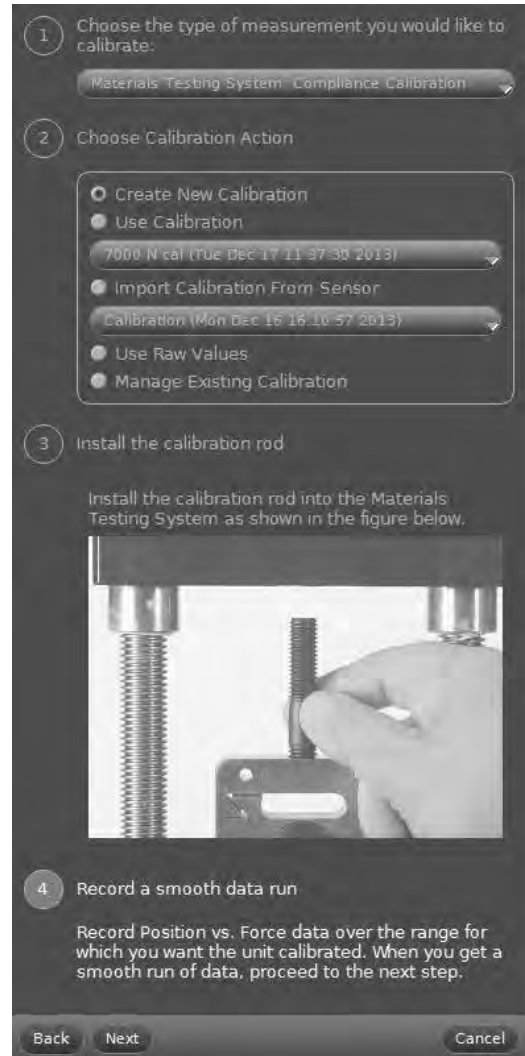

Figure 3: Calibration Wizard screen shot
**Step 2: Choose the calibration action.** There are five activities (see Fig. 3) that allow you to create, select, save, modify and delete calibrations.